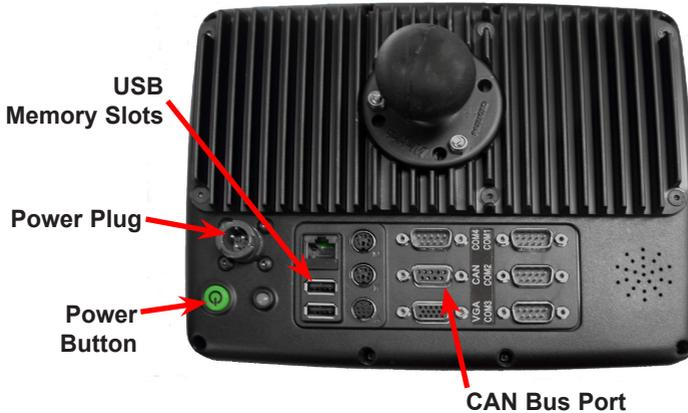

Figure 7-1. X20 Console: Rear View
The X20 has 2 USB slots on the rear of the console (Figure 7-1) and 2 USB slots on the side of the console.
2. Press the **Power** button (Figure 7-1), on the back of the X20 console, to switch the console on